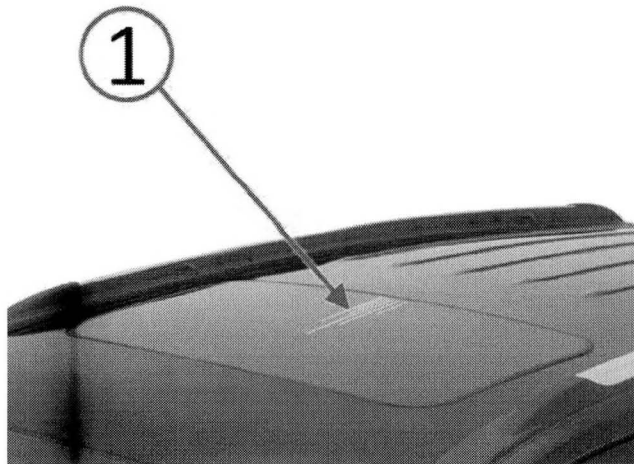

Fig. 1 Sunroof Glass Scratch
1. Clean the sunroof glass and inspect for scratches on the top exterior surface (Fig. 1). Were straight front to back directional scratches found on sunroof top exterior surface?